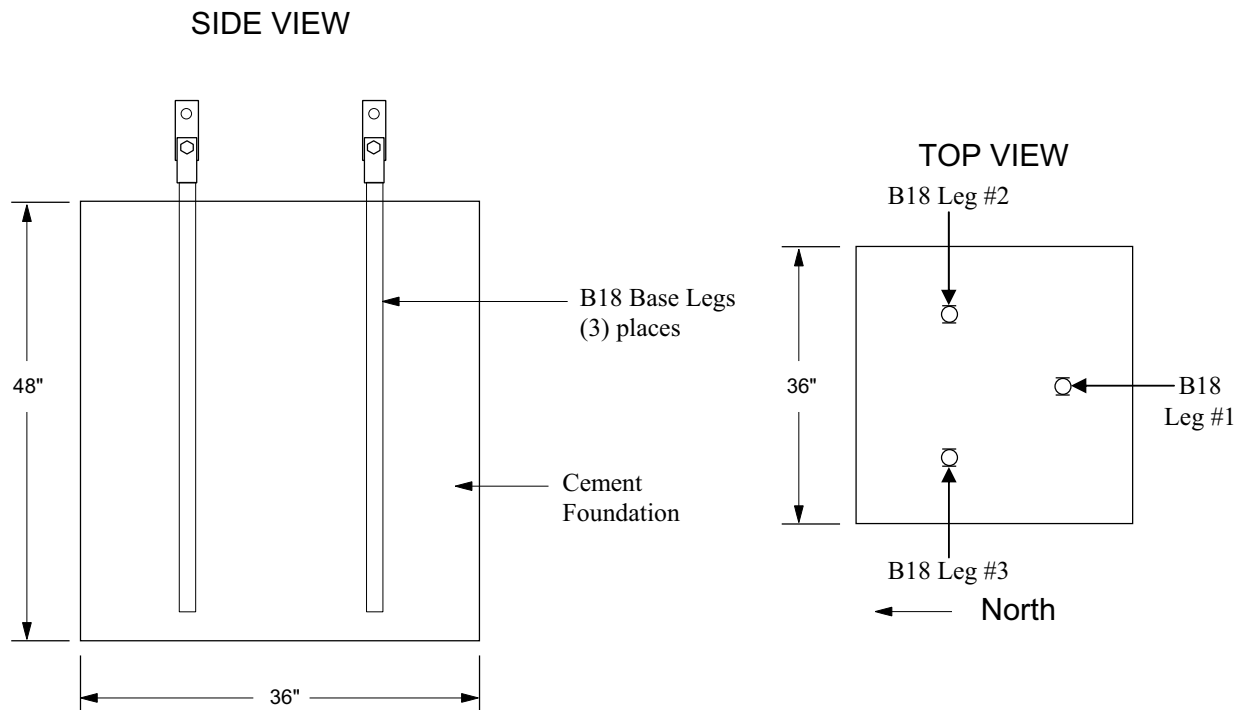

FIGURE 2.1-3. Foundation for B18 base
1. Dig a hole 36" square and 48" deep where the tower base will be located (Figure 2.1-3).